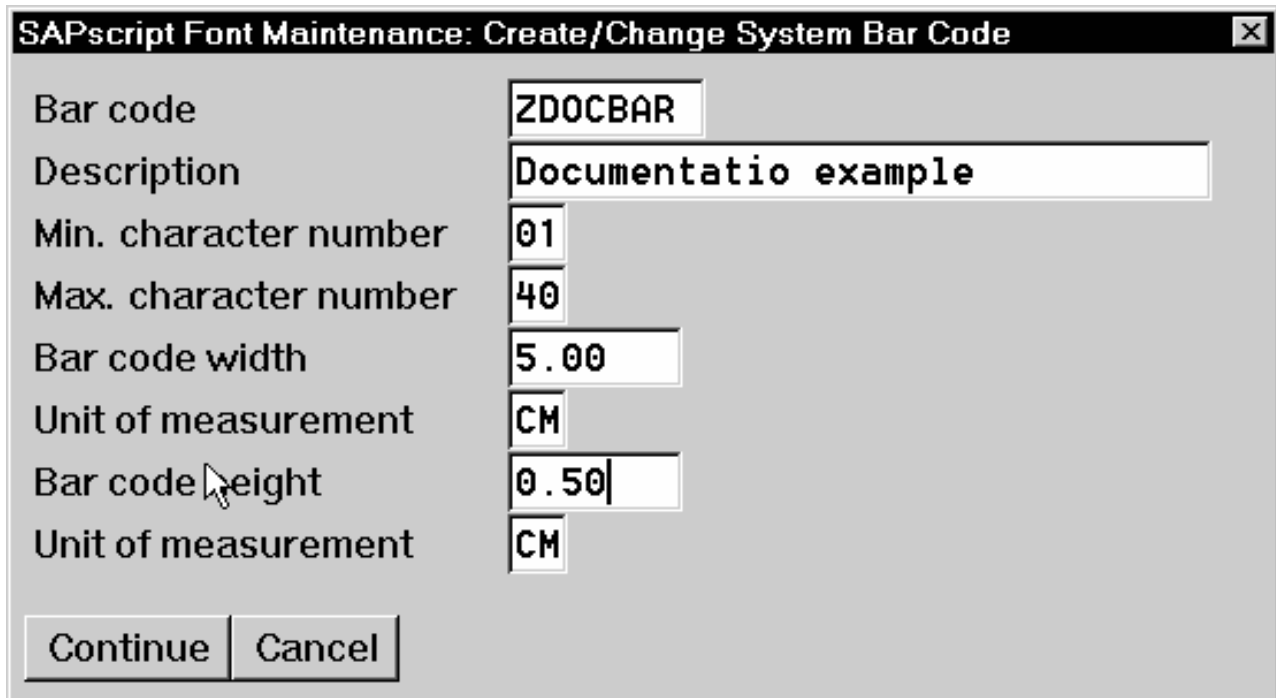

Figure 70. SAPScript Font Maintenance (Create/Change) System Bar Code window
3. Select the **Create** icon and fill in the bar code information on the Create/Change System Bar Code window as shown in Figure 70 on page 159: